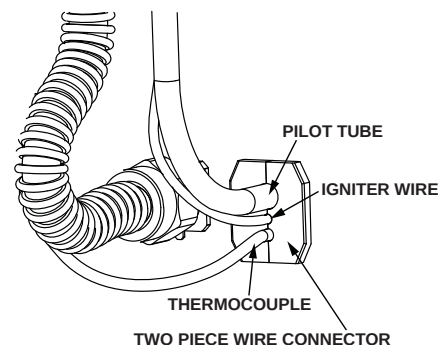

FIGURE 41.
1. Take off the burner by removing the two (2) screws located underneath the burner.
2. Check the burner to see if it is dirty or clogged. The burner may be cleaned with soap and hot water (Figure 41).
2. Remove the burner to access the pilot/thermocouple assembly. Remove and keep the screws securing the burner to the manifold (Figure 41). **IMPORTANT:** DO NOT remove the orifice.
7. Route the new pilot tube and wires through the opening in the manifold door. See Figure 41.
8. Using the pilot screw removed earlier, attach the new pilot/ thermocouple assembly. Reattach the burner to the manifold using the screws removed earlier. **NOTE:** If the burner has a scoop, make sure that the scoop is oriented to the pilot side of the manifold tube (Figure 41).